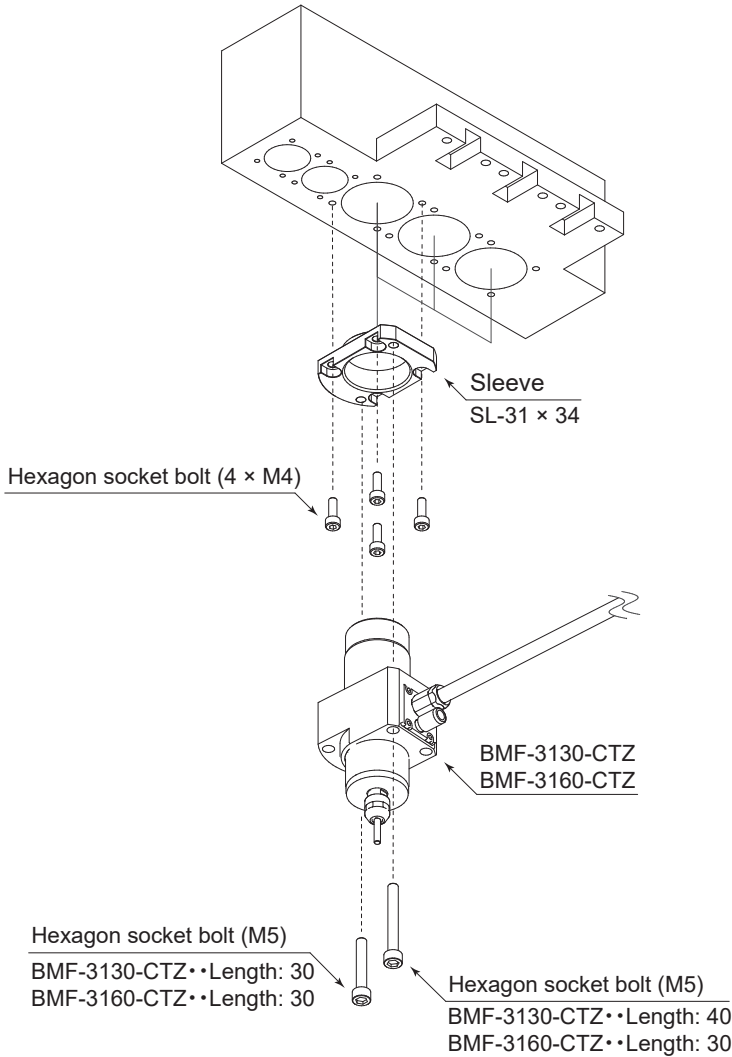

Fig. 2
- ① Insert this sleeve into the CNC lathe’s holder.
- ② Align the four mounting holes on the sleeve with those on the holder and secure it using four M4 hexagon socket bolts.
- ③ Insert the body of the motor spindle into the sleeve.
- ④ Align the two mounting holes on the motor spindle’s flange with those on the sleeve. Secure it using the hexagon socket bolts specified in Table 2 (see Fig. 2).